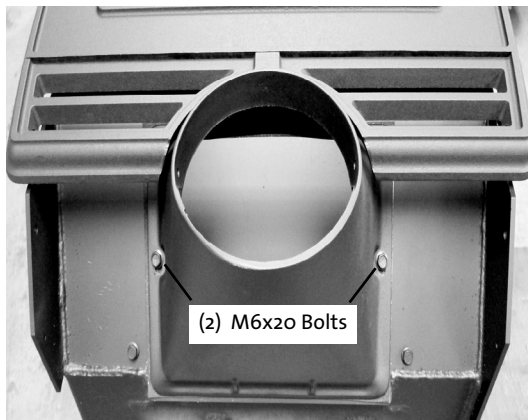

Figure 32. Remove (2) M6x20 bolts for smoke outlet
5. With one hand on the inside of the smoke outlet holding the M6 flange nut, use a 10mm open-end or socket wrench to remove the (2) M6x20 bolts from smoke outlet. Place the smoke outlet out of the way. See fig. 32.
6. Use a 13 mm open-end or socket wrench to remove the (2) M8 flange nuts with M8 fender washers retaining the top plate assembly. Access through smoke outlet opening is adequate.